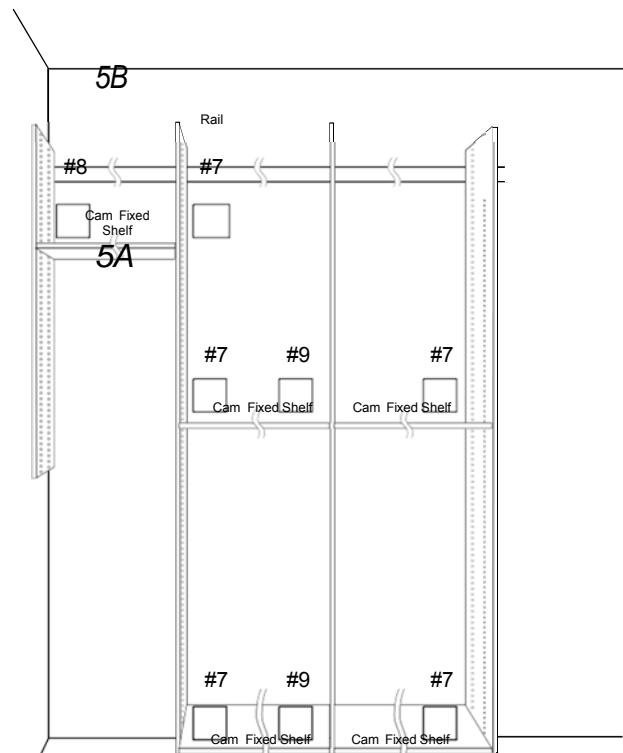

Fig. 5
11. Fasten all Slip In (#7), Screw in (#8) or Double Sided Studs (#9) into the system holes for the fixed shelves, until the stop ring is snug with the partition face. (See Fig. 5.) (See *Drawer Assembly* instructions for locations of fixed shelves above, below and between banks of drawers.)